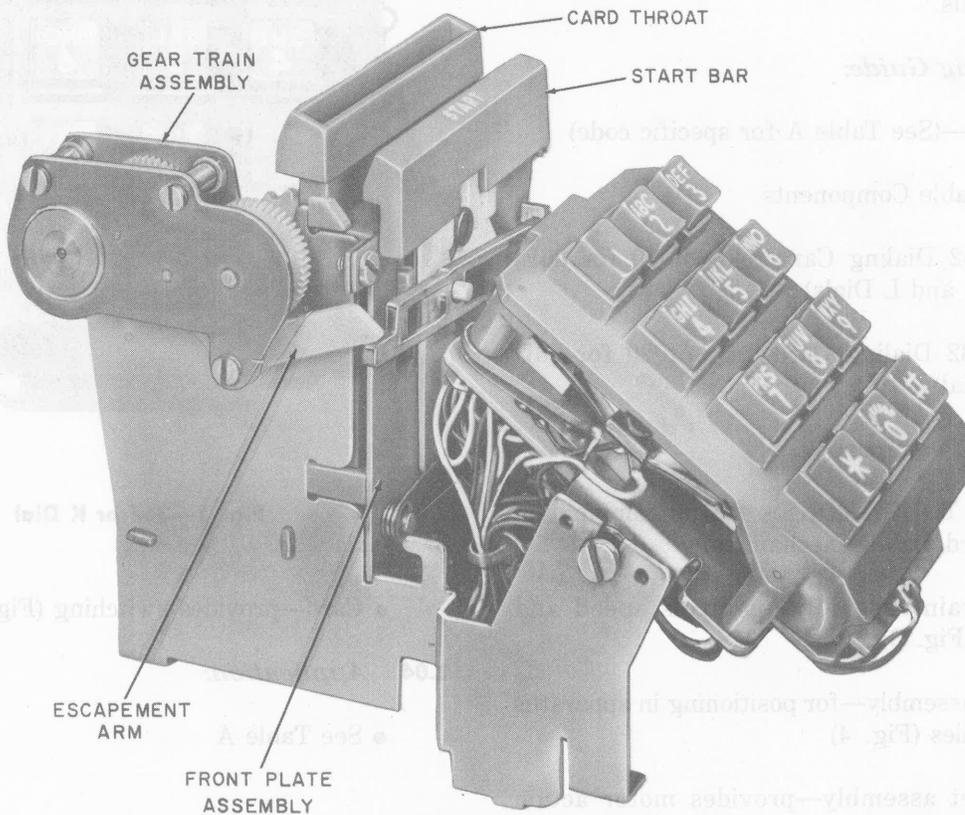

Fig. 3—36E, J, or K Dials, Left Side View
(1) Replaceable Components
- P-28E382 Dialing Card (pkg of 20 for 36D (MD) Dial).
- Gear train assembly—controls speed and timing (Fig. 3)
- Front plate assembly—controls start and stop action (Fig. 3)
- (e) Escapement arm (Fig. 3) should work freely without binding or catching.
- (6) Inspect precoded cards. All cards bent, warped, dirty (heavy accumulation of dirt), or deformed by heat (such as cigarette burns) should be replaced.